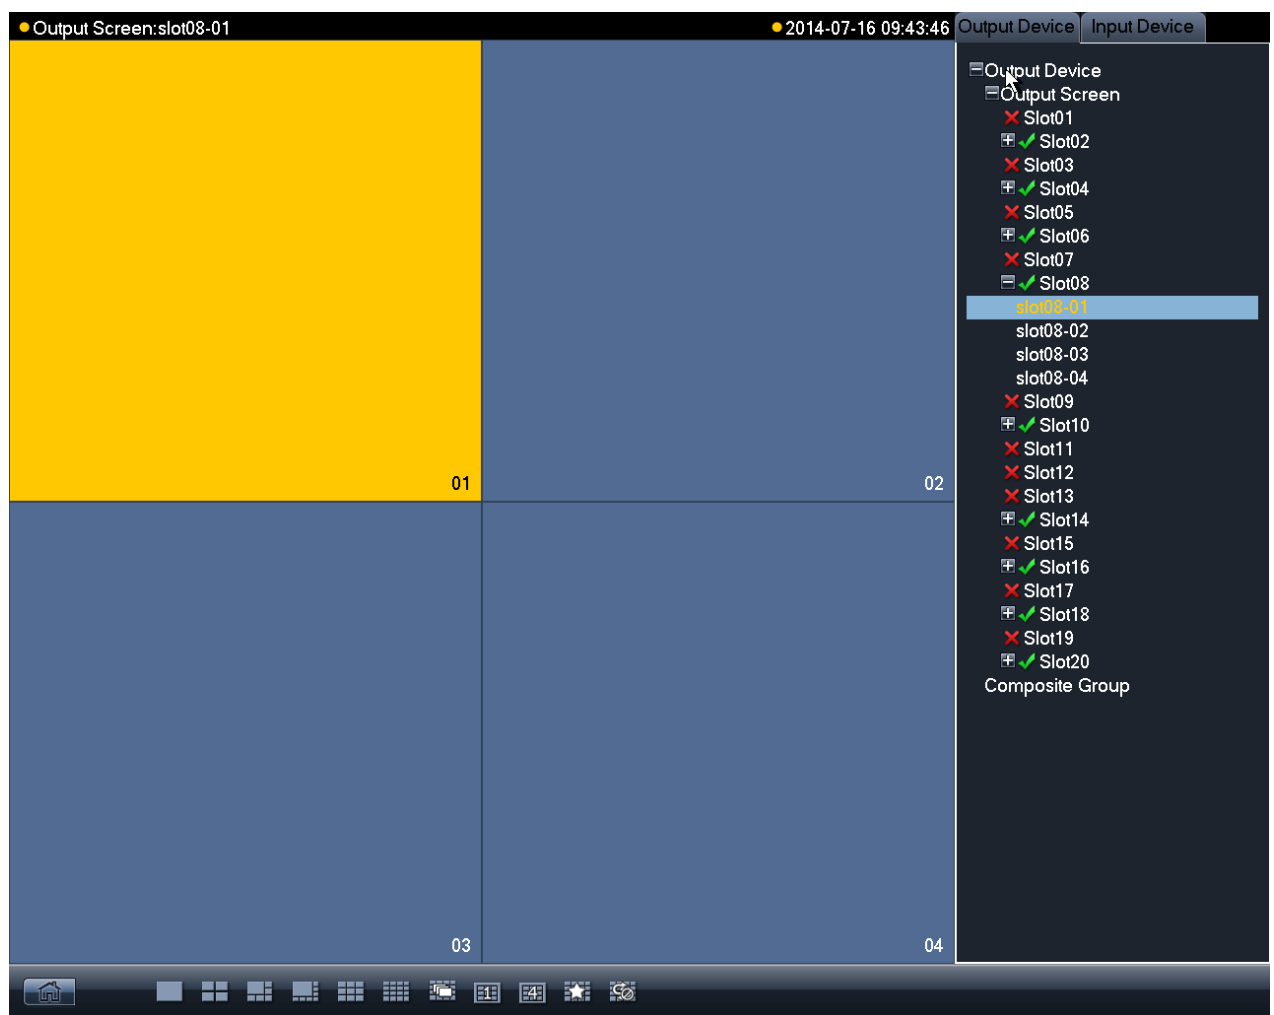

Figure 4-6
Step 1 In output list, double click output channel name, select split window and then its corresponding window turns yellow, as shown in Figure 4-6.